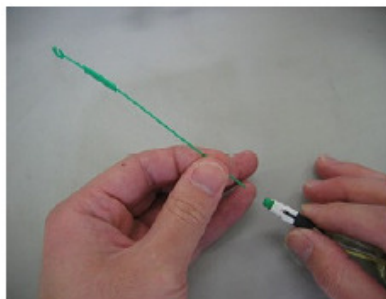

Figure 34
16. Snap the string off dust cap. (Fig. 34)